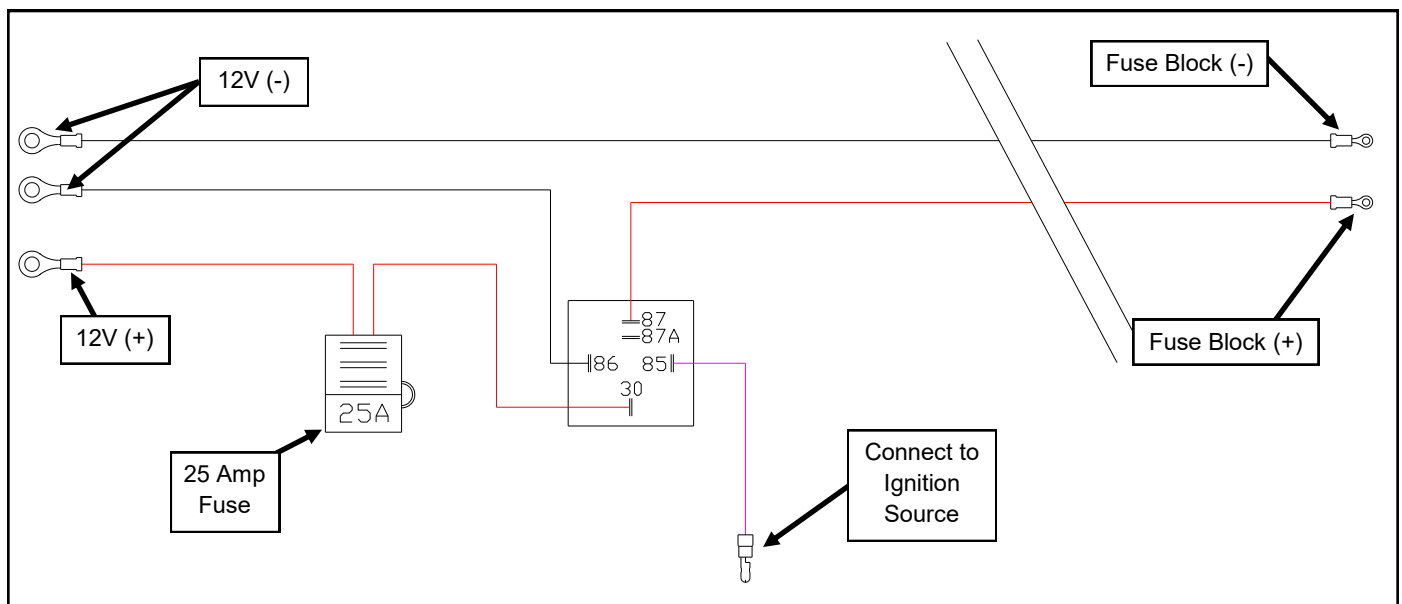

Fig. 6
6. Use figure 6 as a guide for wiring connections. Connect as follows: